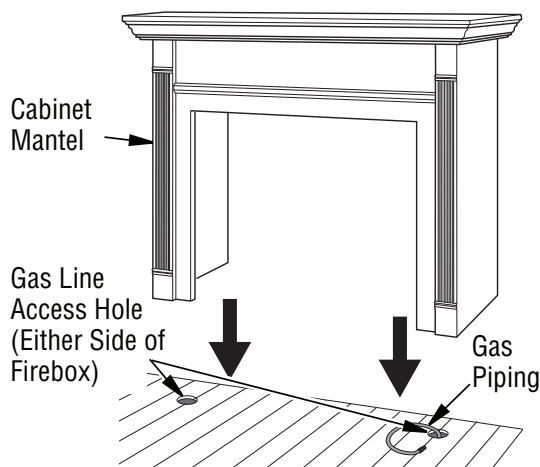

Figure 11 - Installing Cabinet Mantel
2. Install gas piping to firebox location. See Gas Line Installation on **Page 16**. You may have to cut an access hole in the floor or wall to run gas line to firebox. Make sure to locate access hole so cabinet mantel will cover it when installed (see **Figure 11**).